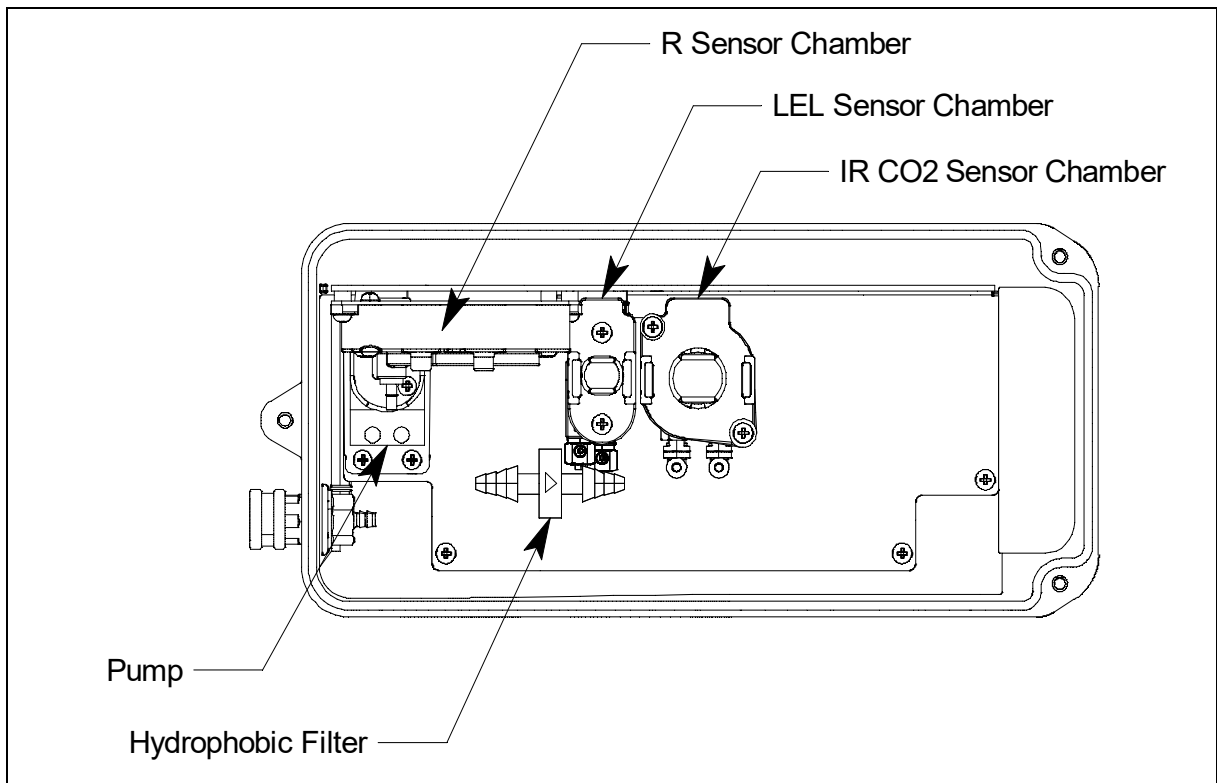

Figure 41: Typical IR CO₂ Sensor Location
The infrared CO₂ sensor is installed in a single sensor flow chamber which is located in the area next to the LEL sensor chamber. This area can accommodate up to three single sensor flow chambers. Figure 41 above illustrates a typical infrared CO₂ sensor location. The infrared CO₂ flow chamber may also be installed in one of the other two sensor chamber locations depending on the particular version of the EAGLE 3. Some infrared CO₂ instrument configurations do not include the LEL sensor chamber.
6. Locate the infrared CO₂ sensor and retainer. Figure 41 on page 227 shows an infrared CO₂ sensor in a typical location.